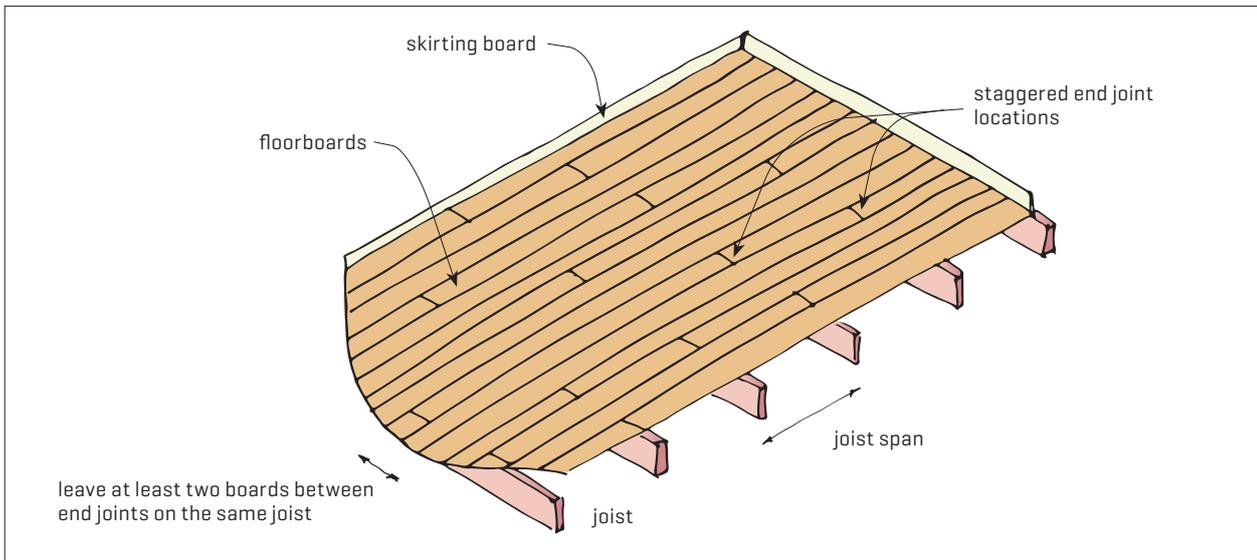

Figure 9. Staggered end joints over joists.
- Where not end-matched, boards are cut square and end joints tightly butted together over joists and with end joints in adjacent boards staggered [Figure 9].